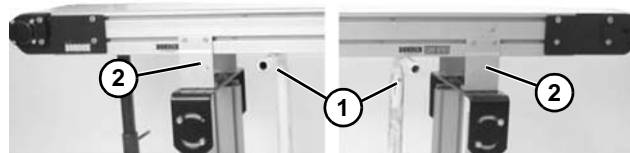

Figure 44
1. Place temporary support stands (**Figure 44, item 1**) at both ends of the conveyor.
2. Remove mounting brackets (**Figure 44, item 2**) from one side of conveyor. (Reverse steps 2 & 3 of “Mounting Brackets” section on page 18).